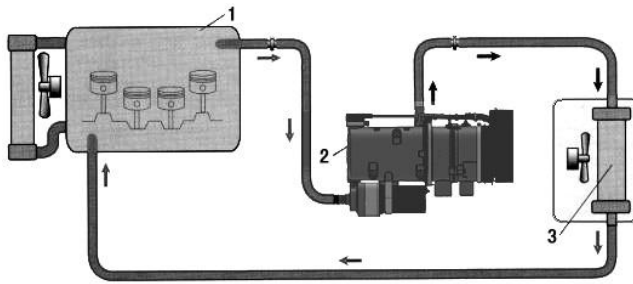

Fig. 8
4.3.2 Connect the heater between engine and heat exchanger of warm blower by special water pipe and water pipe clamp(See Fig.8).